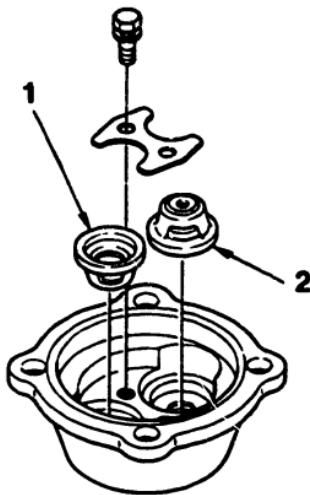

Fig. 84 Check valve mounting
1. Attach the check valves for the suction and supply ports in opposing directions as shown in Fig. 84 even though they are of the same type.
After assembling the injection pump, it should be adjusted to satisfy the engine requirements using an injection pump test bench. The attachments and tools shown in Fig. 84 are necessary for the adjustments.